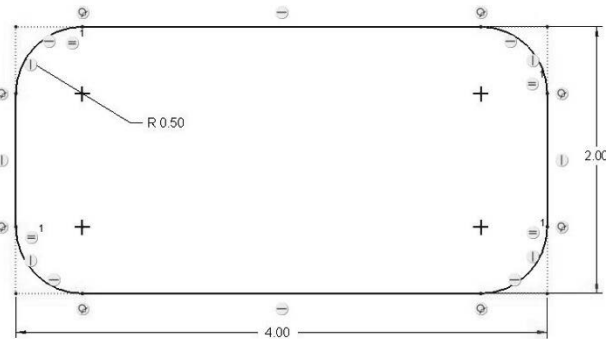

Figure 3-38 Rounded Corners
- Step42:** Create a rectangle, then use  to create four rounded corners. Use  the Equal constraint to make all four rounded corners the same radius. Adjust the dimensions so the rectangle is 4.00 inches long and 2.00 inches high with 0.50-inch radius corners. There should be only three dimensions present on the sketch. Remember that    stand for horizontal, vertical, and tangent. See Figure 3-38.